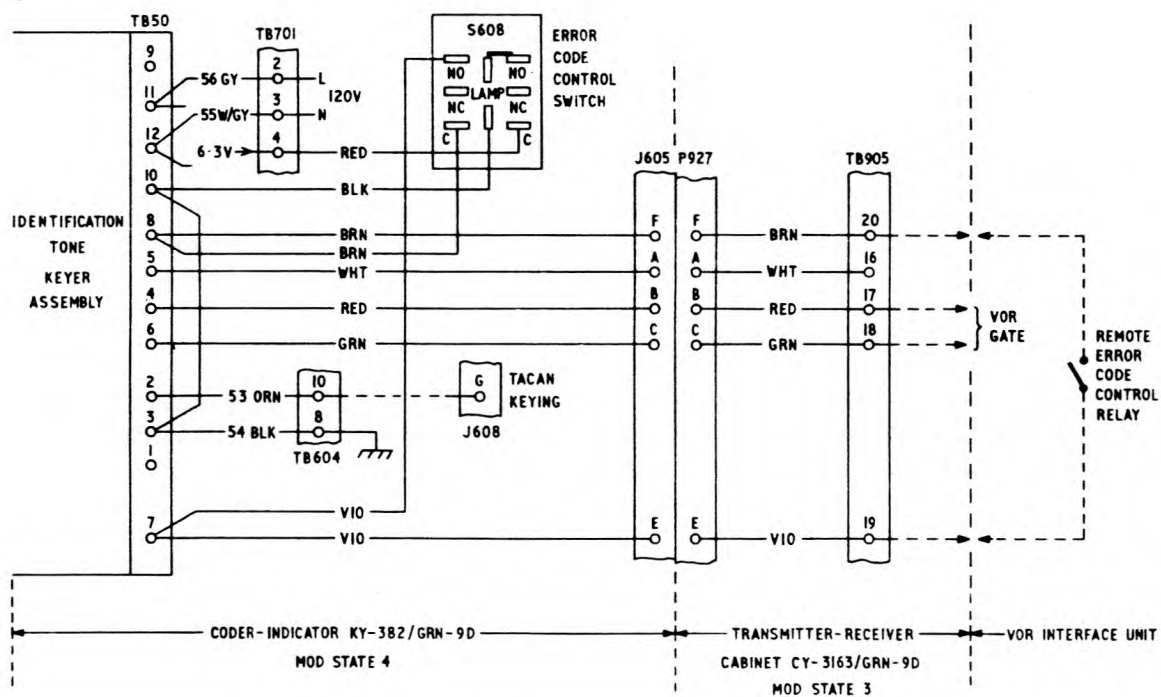

Fig. 12 Coder Indicator, Keyer Connections
- (1) The word "mechanical" becomes redundant.
- (2) References to "mechanical keyer motor" and "motor switch" should be ignored.
- (3) References to "motor lubrication" should be ignored.
- (4) TB50, mounted on the side of the electronic keyer replaces and has a similar function to TB601 which is removed. The four original wires to it are used with TB50, plus a further eight.
- (5) A new switch, S608, is fitted to the front panel. This is a test switch to call up an additional code message signifying that a fault condition exists, or the TACAN beacon is undergoing maintenance. This is a warning to pilots and navigators that the beacon is unreliable.
- (6) The "ERROR" code of the previous paragraph can also be accessed remotely after extra wiring and equipment is laid in. (See Figure 12 for wiring changes, and chapter 2 for a technical description of the electronic keyer.)
17. Additional frame wiring is fitted to enable all the facilities afforded by an electronic identification tone keyer unit to be used. (Modification No. A6368). The modification is mandatory with VORTAC installations. Figure 12 shows the combined effect of modification A6368 and A6364 described in paragraphs 14, 15 and 16.